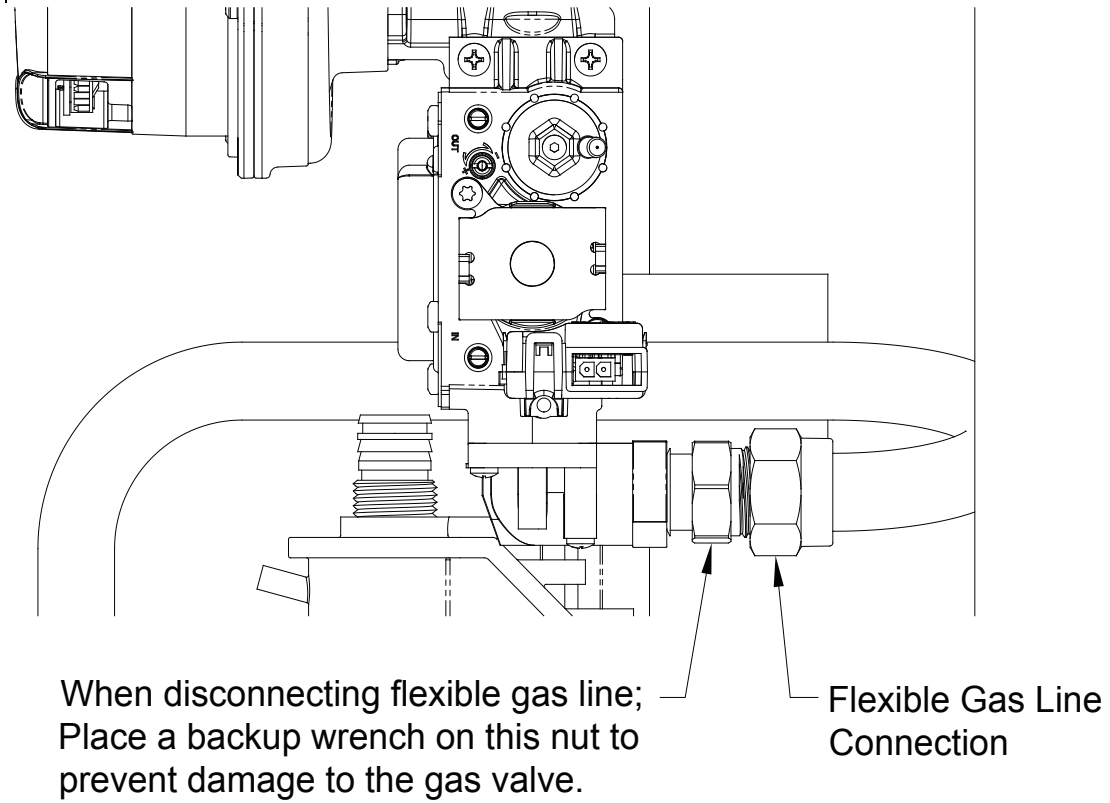

Figure 13.1: Disconnecting Flexible Gas Line
- e. **Disconnect the flexible gas line** at the gas valve flare connection (Figure 13.1).
**WARNING** Fire Hazard. Explosion Hazard. Always use a back-up wrench on the flare connection when making or breaking this connection as shown in Figure 13.1. Failure to do so can cause adjacent threaded connections to loosen or damage to the gas valve. Check all internal gas piping for leaks any time it is disconnected or disturbed during servicing.